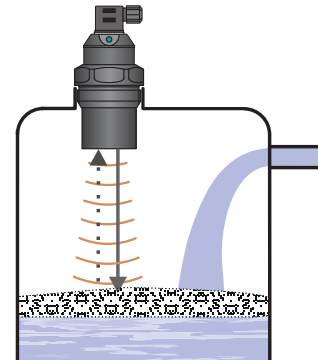

Fig. 5: Thick foam on the surface
g) Foam may be produced on the surface of the measured liquid during filling, mixing and other processes. The thick foam significantly absorbs the ultrasound signal and may cause malfunction of the device (Fig. 5). In those cases it is necessary to test the device in advance and, if necessary, to contact the manufacturer.